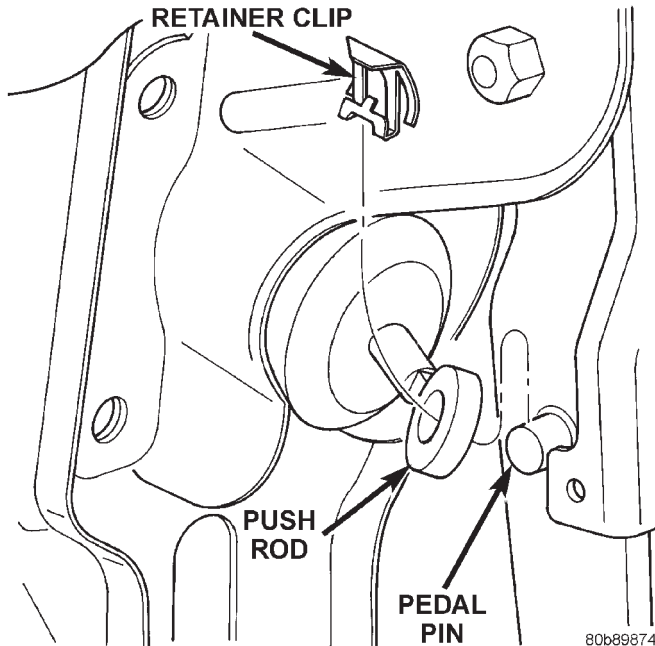

Fig. 17 Push Rod Retainer Clip
(1) Remove retainer clip that holds booster to pedal pin (Fig. 17).